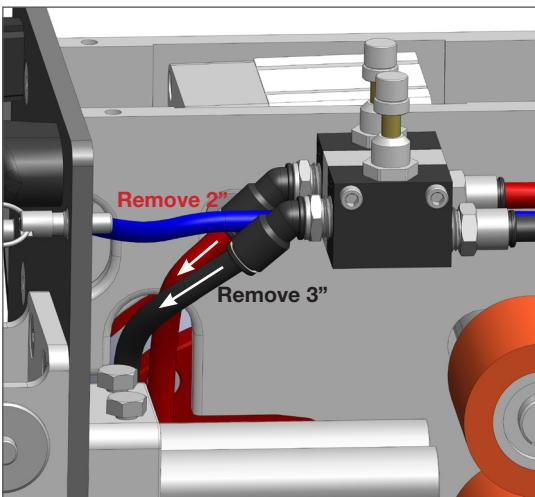
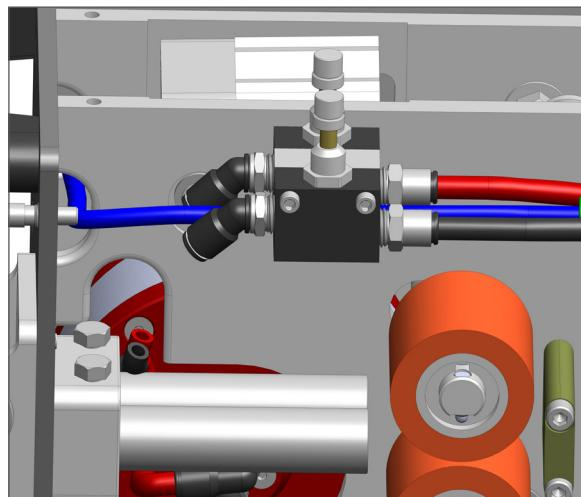

FIGURE 1
FIGURE 2
1. Remove the 4 flat head cap screws from the Top Plate using a 5/32 Allen wrench hex key. Set the Top Plate and screws aside, and open the Side Door. (**FIGURE 1**)
1. Install the 3 JIC fitting assemblies to the new AutoStroke Air Manifold. Use pipe dope or tape on the NPT tapered threads. Re-attach the air manifold using the 2 hex head bolts that were reserved from the original manifold assembly. (**FIGURE 1**)
2. Reconnect the 3 air tubes (blue, red, and black) to the push-to-connect fittings on the bottom of the air manifold. (**FIGURE 2**)
1. Disconnect the red and black air tubes from the fittings on the left side of the flow controls. (**FIGURE 1**) Cut exactly 2 inches off the end of the red tube and 3 inches off the black tube. (**FIGURE 2**)